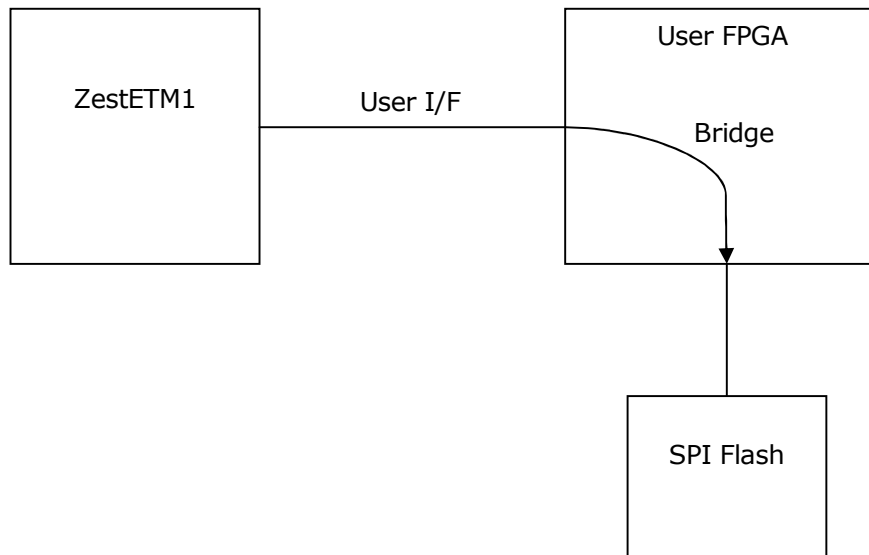

Figure 7. Using the Xilinx Multiboot Scheme to Program an FPGA
- Use the Xilinx MultiBoot master SPI configuration mode. A "golden" or "fallback" configuration file is programmed into the SPI flash either by using JTAG via the FPGA or by pre-programming the flash before board assembly. This configuration file provides a bridge inside the FPGA from the ZestETM1 user interface to the SPI flash for programming the "main" configuration file over Ethernet (e.g. using FIFO high speed mode or master SPI), see Figure 7. The FPGA reconfigures itself from flash with the main file using the IPROG (internal PROGRAM_B) command and registers that specify the start address of the file in flash. If the main configuration also contains the user interface to SPI bridge then the main file in the flash can be updated in the field. This has the added advantage that if the main file update fails then the Multiboot fallback feature means that FPGA will fall back to the golden file and the board can be recovered.